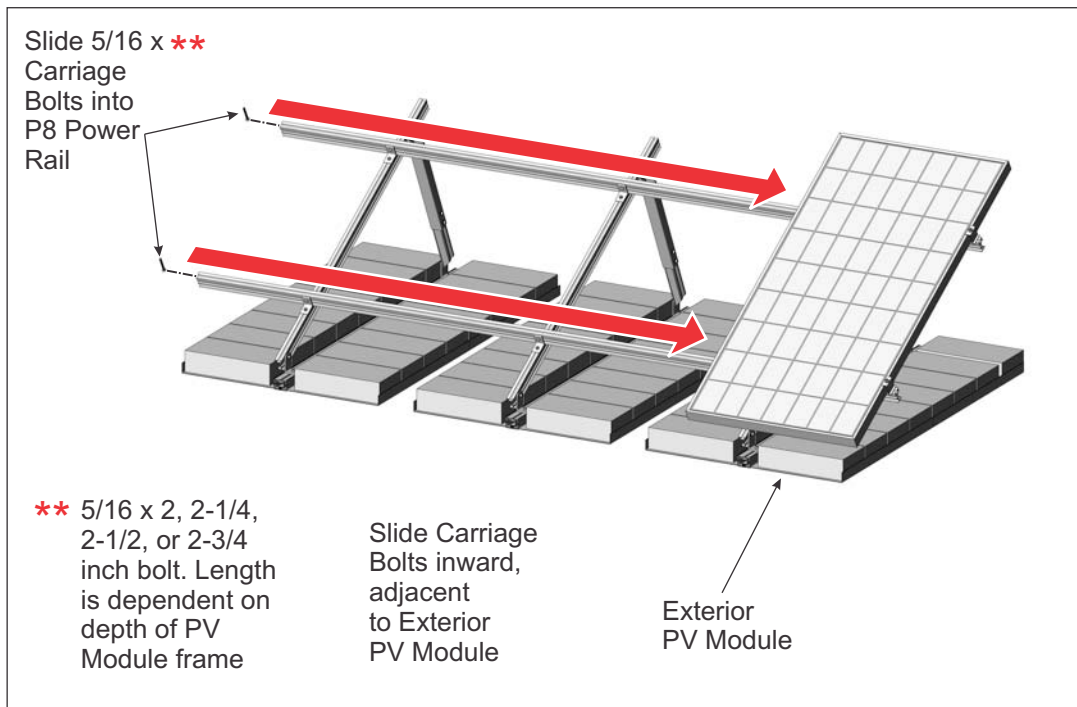

Figure 12-5: Inserting Mid Clamp Hardware into P8 Power Rail
- B. Position the Mid Clamp fasteners flush with the outer edge of the installed module frame, opposite the end clamps. (See Figure 12-5)